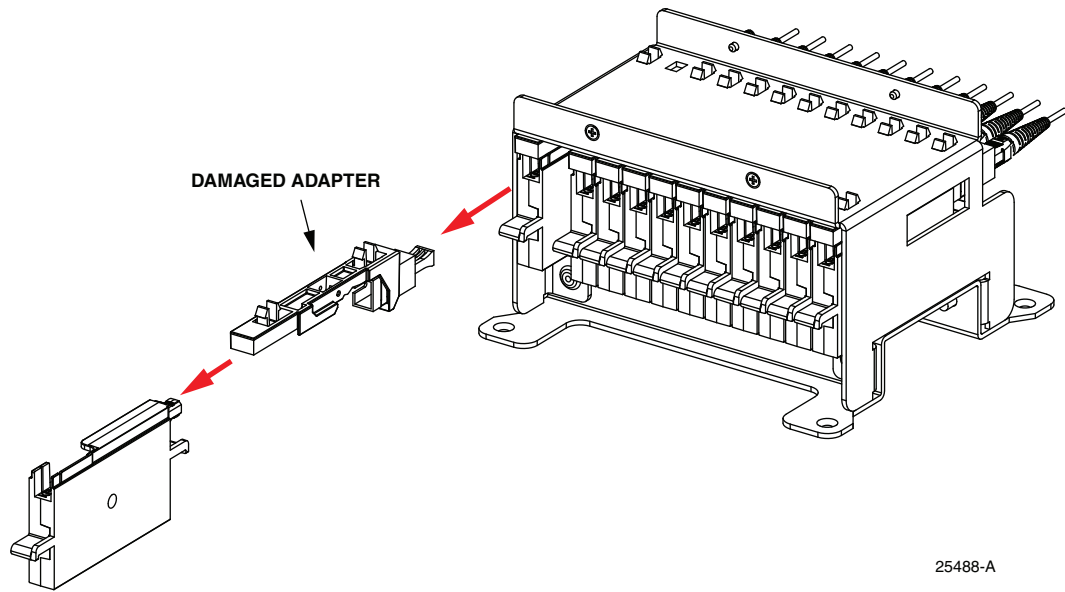

Figure 24. Removing Damaged Adapter
5. Disassemble, from upper clips, top slide with damaged adapter, and discard, as shown in Figure 24.